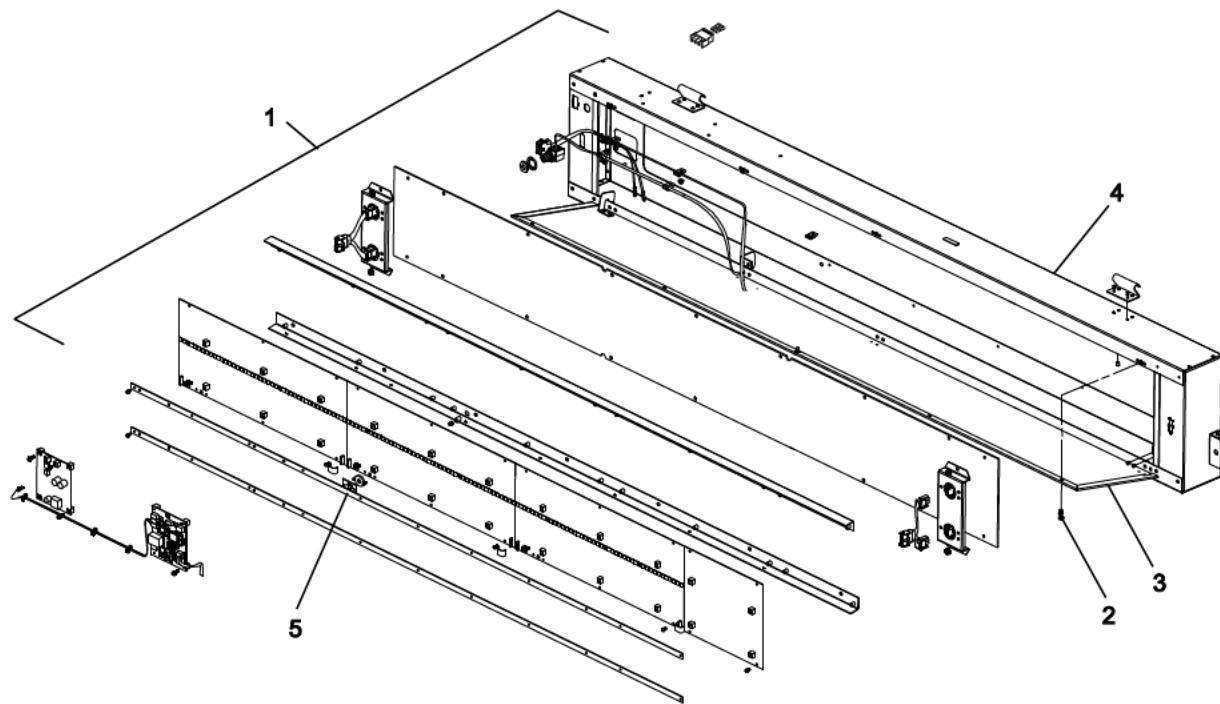

Figure 7-13: Replace Front Destination Sign Light Sensor PCB
1. Remove front destination sign assembly (1, Figure 7-13) from its mounted location.
2. Remove ten 6-32 x 5/16 SEM screws (2) that secure backplate assembly (3) to front panel assembly (4).
3. Carefully separate backplate assembly (3) from front panel assembly (4) to access electrical wiring and harnesses.
4. Tag and disconnect electrical wiring connectors from the light sensor PCB (5).
5. Remove light sensor PCB (5).
6. Install replacement light sensor PCB (5).
7. Connect electrical wiring connectors to the light sensor PCB (5).
8. Install the backplate assembly (3) to the front panel assembly (4) using ten 6-32 x 5/16 SEM screws (2).